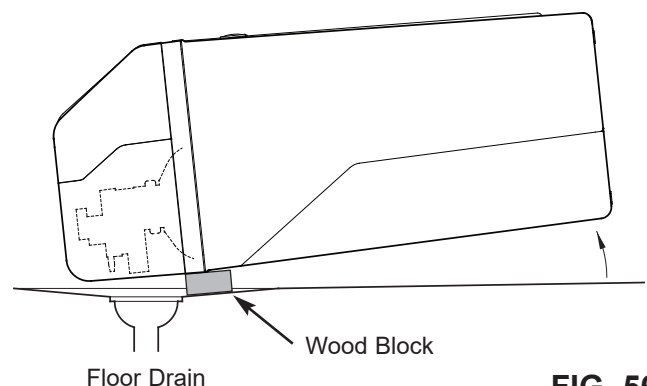

FIG. 56
6. Lay a piece of 2 inch thick board near the floor drain (See Figure 56).